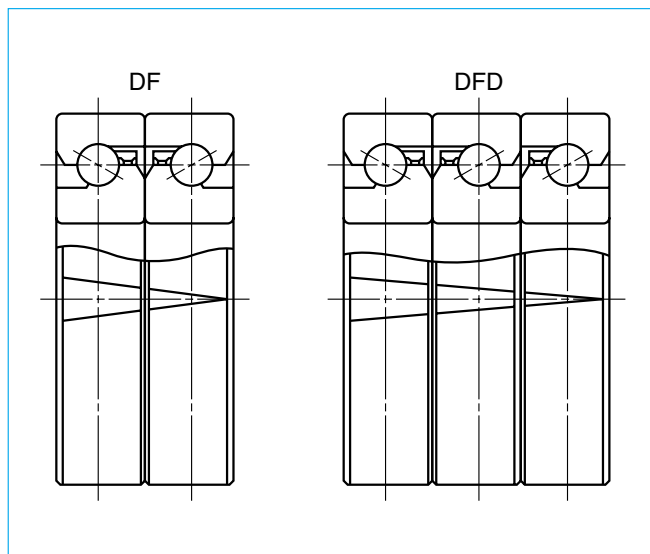

Fig. I-6-2 Examples of combination and "V" mark
- Figure I-6-2 shows examples of combinations. There is "V" mark on the outside surface of the bearing to avoid misarrangement. A complete letter "V" should be formed when all bearings align correctly to form a set.